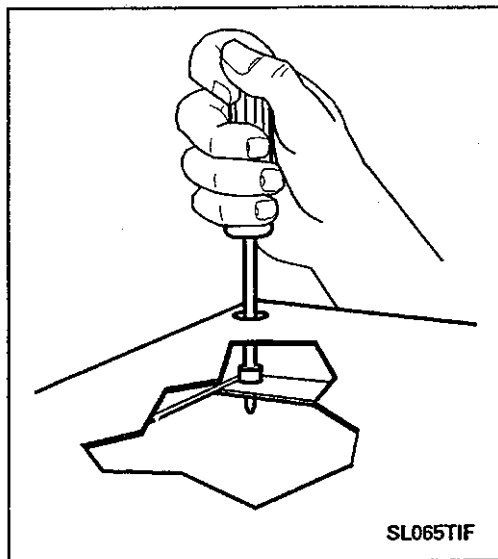

Figure 9-7
- Remove two 3/8" hex head screws securing the top cover to the rear cabinet flange (*Figure 9-7*).